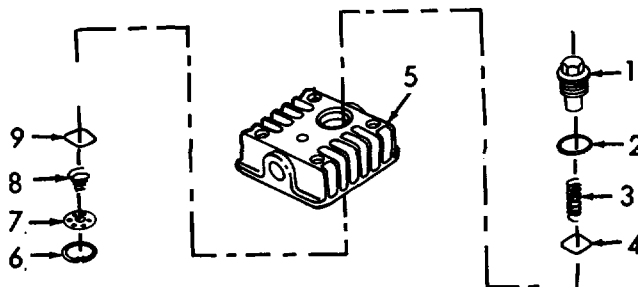

Figure 3-28. Valve Assemblies, Disassembly.
- (1) Remove four bolts (1).
- (2) Remove head (2) and gasket (3). Discard gasket.
b. *Disassembly.* (Refer to Figure 3-28).